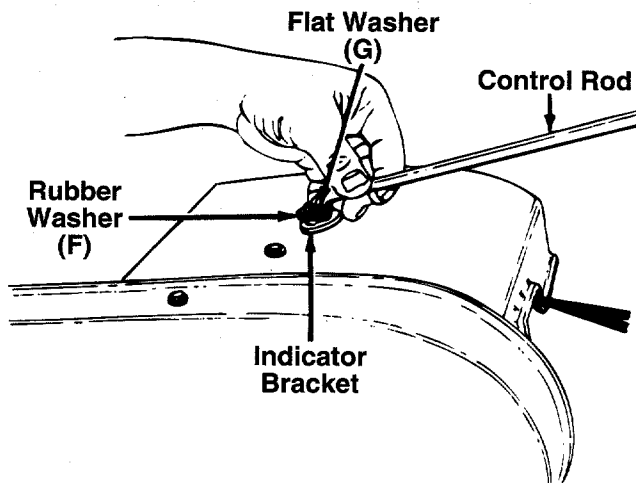

FIGURE 12.
22. Place flat washer (G), then rubber washer (F) over the hooked end of control rod. Insert end of control rod into the indicator bracket on top of the shift cover, and secure with hairpin clip (E). See figure 12.